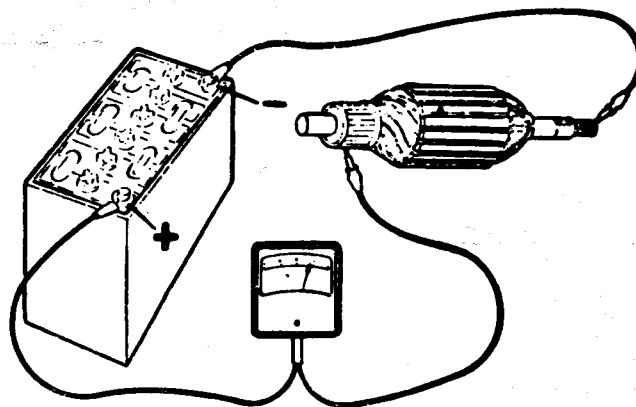

Fig. 7 - Armature Earthed Circuit Test.
Using a 12 volt battery and a voltmeter with test prods, make the connections shown in Fig.7. Place the voltmeter test prods on each pair of adjacent commutator segments in turn and note the voltmeter readings. If the armature is in good order, all readings will be similar, but if between any pair of segments a low or zero reading is obtained, one or more adjacent coils are open circuited.
4. Overheating due to the machine having been run on an open circuit. Using a 12 volt battery, voltmeter and test prods, make the test connections shown in Fig.7. Keep one test prod in contact with the end of the armature shaft and place the other on each commutator segment in turn.